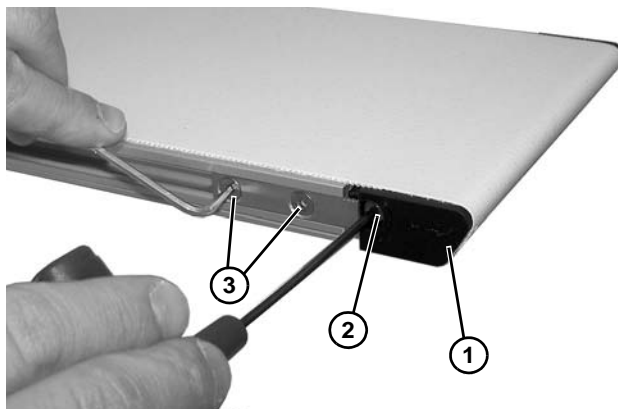

Figure 30
1. On tension end of the conveyor, adjust idler end (**Figure 30, item 1**) tracking cam (**Figure 30, item 2**) just enough to remove slack in the belt.
2. Tighten screws (**Figure 30, item 3**) to 12 in-lb (1.4 Nm).